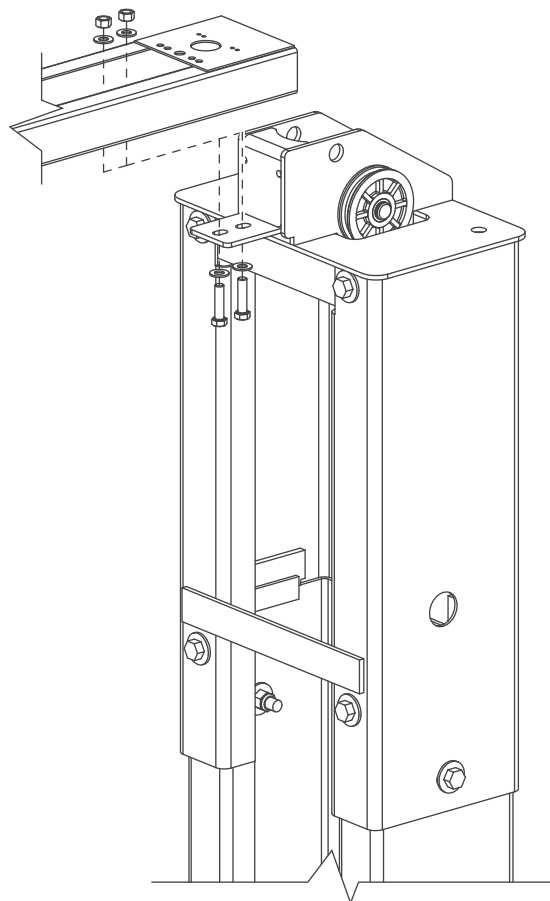

Figure 11
- * Raise the overhead beam and secure it to the upright using two $\frac{3}{8}$ x 1-1/2 bolts, washers and nuts (typical both sides), Figure 11.